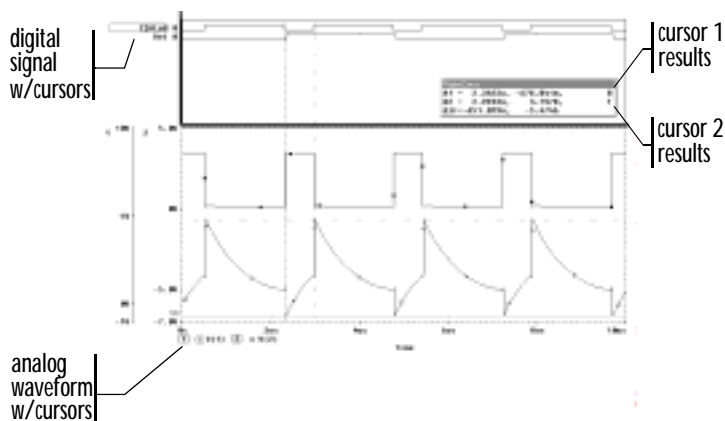

Figure 121 *Cursors positioned on a trough and peak of V(1)*
Figure 121 shows both cursors positioned on the Out signal in the digital area of a plot, and both cursors on the V(1) waveform in the analog area of the plot.
The mouse buttons are also used to associate each cursor with a different trace by clicking appropriately on either the analog trace symbol in the legend or on the digital trace name (see Table 45 on page 510). These are outlined in the pattern corresponding to the associated cursor's crosshair pattern. Given the example in Figure 121, right-clicking the V(2) symbol will associate cursor 2 with the V(2) waveform. The analog legend now appears as shown below.